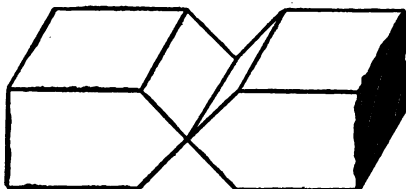

Fig. 69. Preparation of Heavy Forgings for Welding
**Square Sections.** Square or rectangular sections of forgings are best prepared by beveling half way through from each side, Fig. 69. After the welding has been carried on from one side, the piece turned over and the welding completed from the second side, there will probably be a slight bow, or curve. In the case of forgings, this is not objectionable, because the work can be, and, in fact, should be, reheated and straightened. The reheating in the case of forgings is beneficial to the grain of the material and the strength of the weld. With castings, however, this bending is not possible. Therefore, to keep the work in alignment, it is best to prepare the work as shown in Fig. 70. The welding is carried on two-thirds of the way through from the first side, and then finished by turning over and working from the second side.